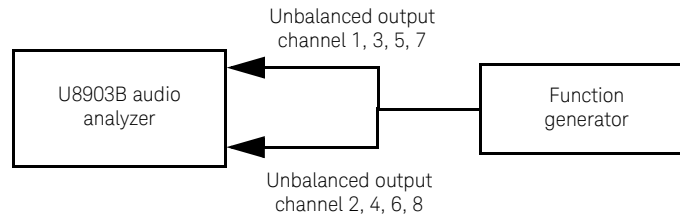

Figure 3-4 Function generator to U8903B connection for phase accuracy verification
- 1 Connect the function generator to the U8903B input channel 1 (3, 5, or 7) and 2 (4, 6, or 8) via the Unbalanced connection as shown in **Figure 3-4**. The BNC-to-banana jack adapter and the BNC male-to-female T splitter is used for this connection. Preset both the U8903B and function generator.